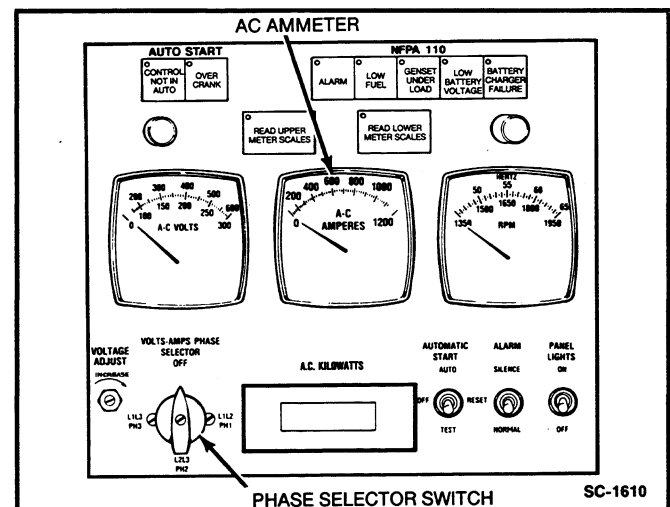

FIGURE 5-15. CHECK LOAD BALANCE
**Load Balancing:** When connecting loads to the generator set, balance the loads so that the current flow from each line terminal (L1, L2, and L3) is about the same. This is especially important if both single phase and three phase loads are connected. Any combination of single phase and three phase loading can be used as long as each line current is within 10 percent of median value, and no line current exceeds the nameplate rating of the generator. Check the current flow from each line after connections by observing the control panel ammeter (see Figure 5-15).